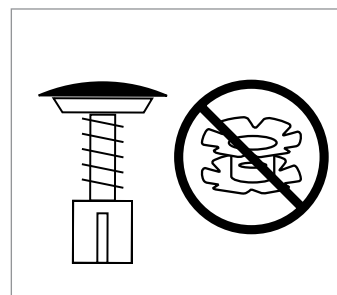

Figure 7
**▲ WARNING:** Never use a star nut with a carbon steerer tube fork (Fig. 7). Star nuts can only be used with aluminum/steel steerer tube forks. Use only a compression device designed for carbon steerers.